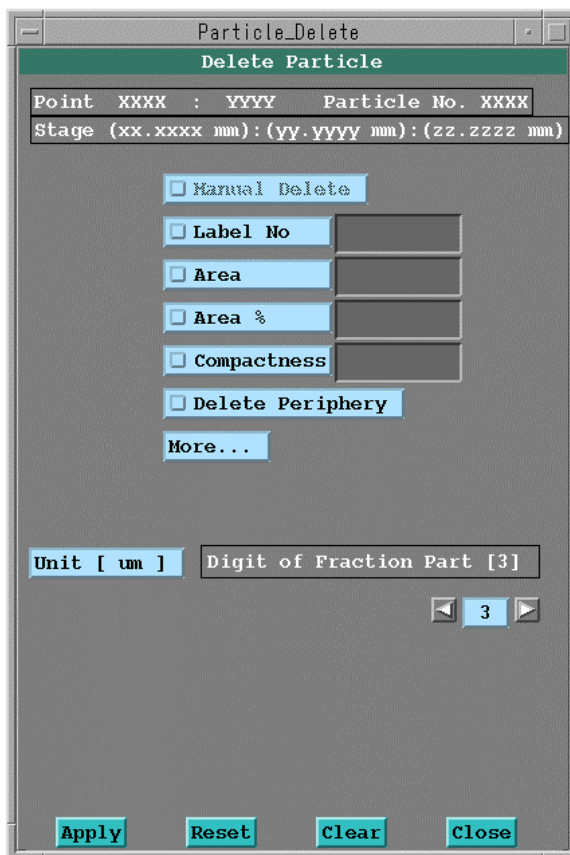
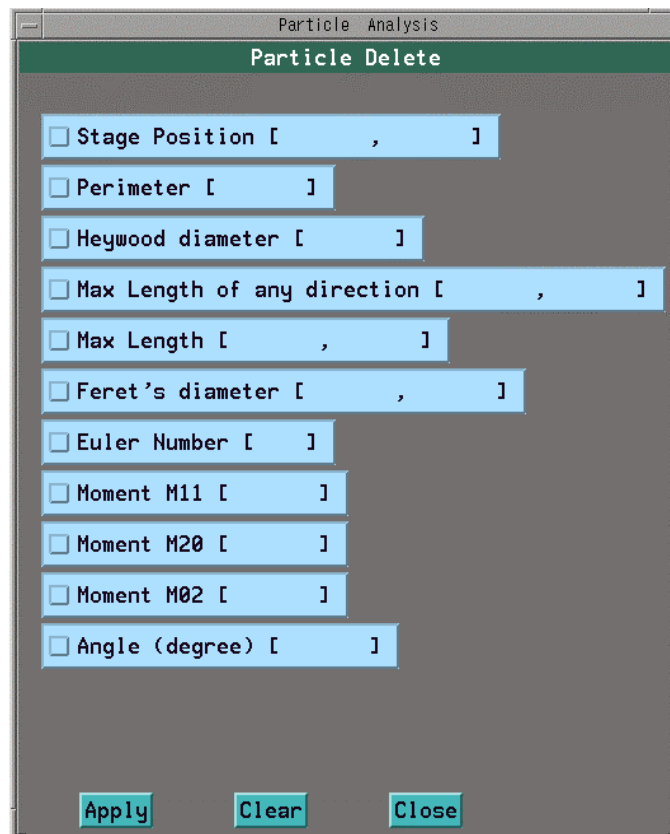

Fig. 7.10 “Delete Particle” window
Fig. 7.11 “Particle Delete” window
Select “Delete” from the “Particle” pull-down menu, and the “Delete Particle” window will appear as shown in Fig. 7.10.
- More. . . :** Allows you to specify the removal of particles according to other conditions. Clicking on the “More. . .” button will display the “Particle Delete” window as shown in Fig. 7.11.
Click on the “More. . .” button in the “Delete Particle” window shown in Fig. 7.10 and the “Particle Delete” window will be displayed as shown in Fig. 7.11.